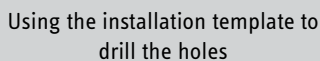

Fig 4
screw (Fig 4) |
- Place a drilling guide at the drilling position in order to drill a hole in the wall (Fig 4).
- Insert a wall plug and screw in (the depth of the protruding screw head must be correct) (Fig 4 No.17).